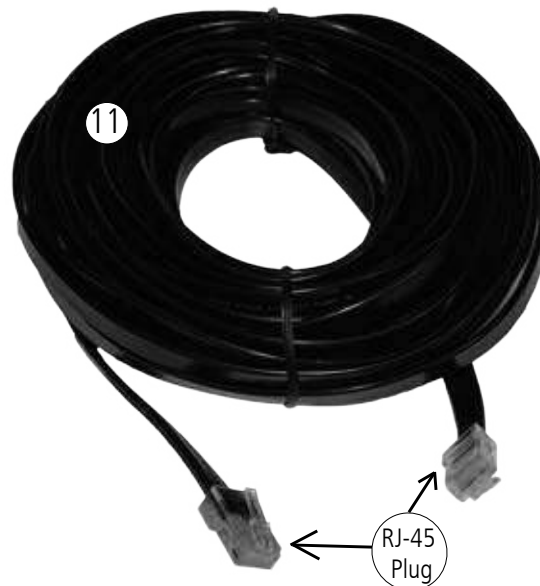

Fig 2.4(b) Cable for Remote Control
11. RJ-45 Data Cable (*Straight Wired*), 10 meter/33 feet length {Fig 2.4(b)}